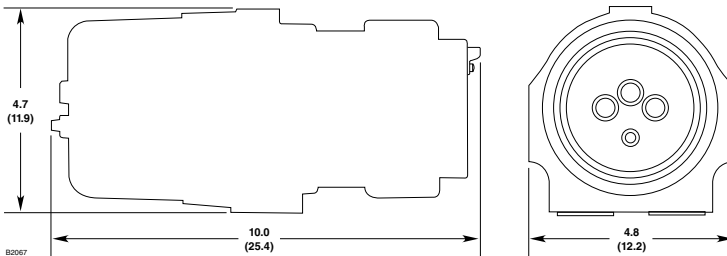

Figure 19—X3301 Dimensions in Inches (cm)
2. Loosen the two captive screws, then grasp the *o_j* reflector plate by the visor and remove it from the detector. See Figure 19.